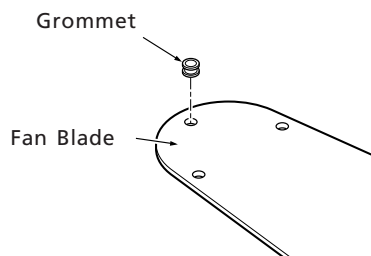

Figure 16
2. If your blades have large holes, you must first insert the rubber grommets into the holes. See Figure 16.